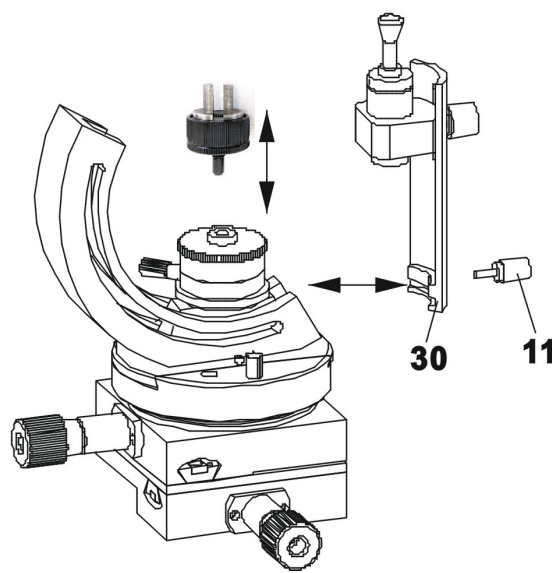

Figure 12
To inspect a sample with a large diameter, unscrew (11) and remove (30) (Figure 12).
To adjust the big diameter sample, unscrew (9) and move (8) (Figure 12) forwards or backwards until you obtain a suitable position.